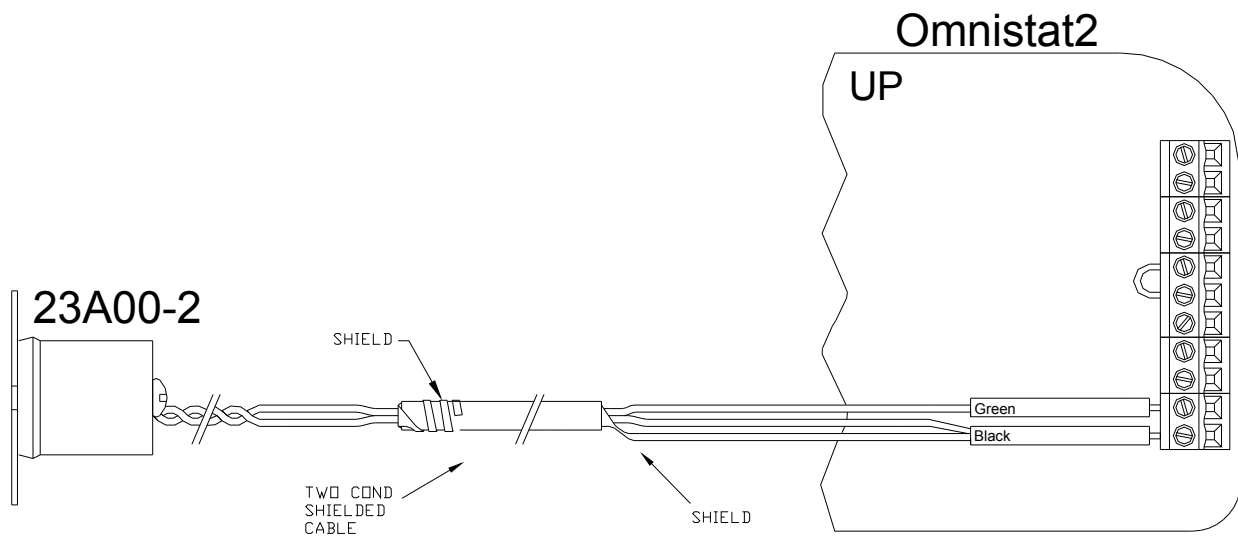

FIGURE 2
7. At the Omnistat2 location, make the connections to the Green and Black terminals under the section marked “Remote Temp Sensor” on the right terminal strip. Note that the shield and one of the wires from the remote temperature sensor are tied together and get connected to the Black terminal – See Figure 2.